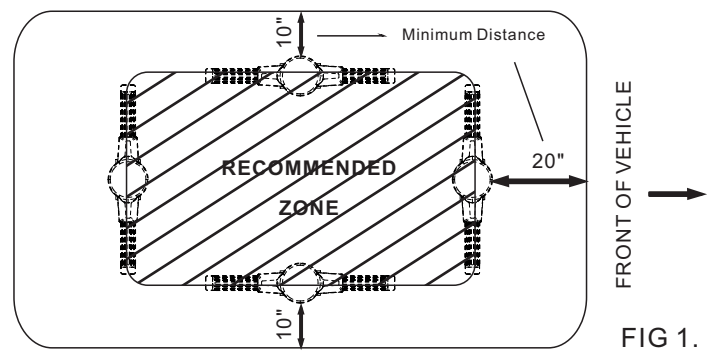

FIG 1.
**STEP 1:** Choose a location for the antenna. The antenna should be placed away from any other metal objects which might interfere with reception. (Refer to FIG 1.)